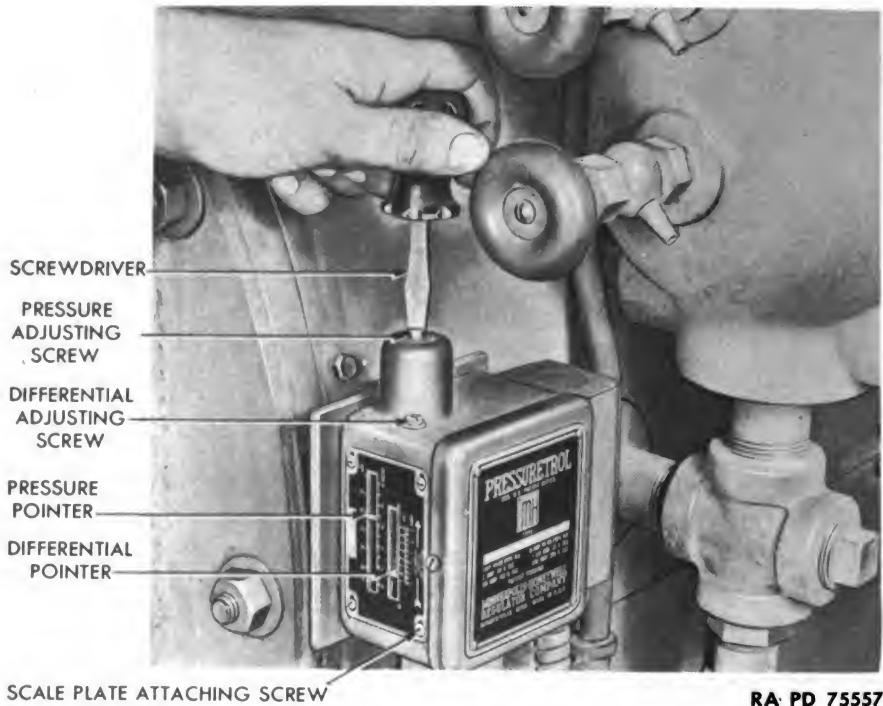

Figure 105 — Adjusting Steam Generating Plant Pressuretrol
(1) **ADJUSTMENT OF MAXIMUM STEAM PRESSURE** (fig. 105). Maximum steam pressure at which pressuretrol will close solenoid valve and stop burner should be set at 90 pounds per square inch. Do not set for 100 pounds or more. To adjust, turn pressure adjusting screw (on top of boss on pressuretrol) until pressure pointer indicates 90 pounds.
(2) **ADJUSTMENT OF STEAM PRESSURE DIFFERENTIAL** (fig. 105). Turn differential adjusting screw (at base of boss on top of pressuretrol) until differential pointer indicates desired differential. Eight to 10 pounds differential is satisfactory.
(3) **SYNCHRONIZING PRESSURETROL AND BOILER GAGE** (fig. 105). If cut-in and cut-out points do not agree with pressure gage on boiler, loosen the four screws which attach scale plate to pressuretrol case. Move scale slightly up or down until gage and pressuretrol agree. Tighten scale plate screws.